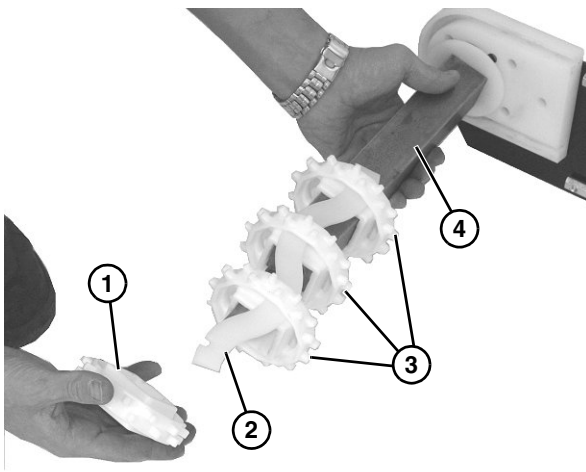

Figure 31
10. Slide entire sprocket assembly slightly outward, and remove the first sprocket (**Figure 31, item 1**) off the drive spindle and alignment bar (**Figure 31, item 2**).
11. Remove remaining sprockets (**Figure 31, item 3**) off the alignment bar as you slide entire assembly off the drive spindle (**Figure 31, item 4**).